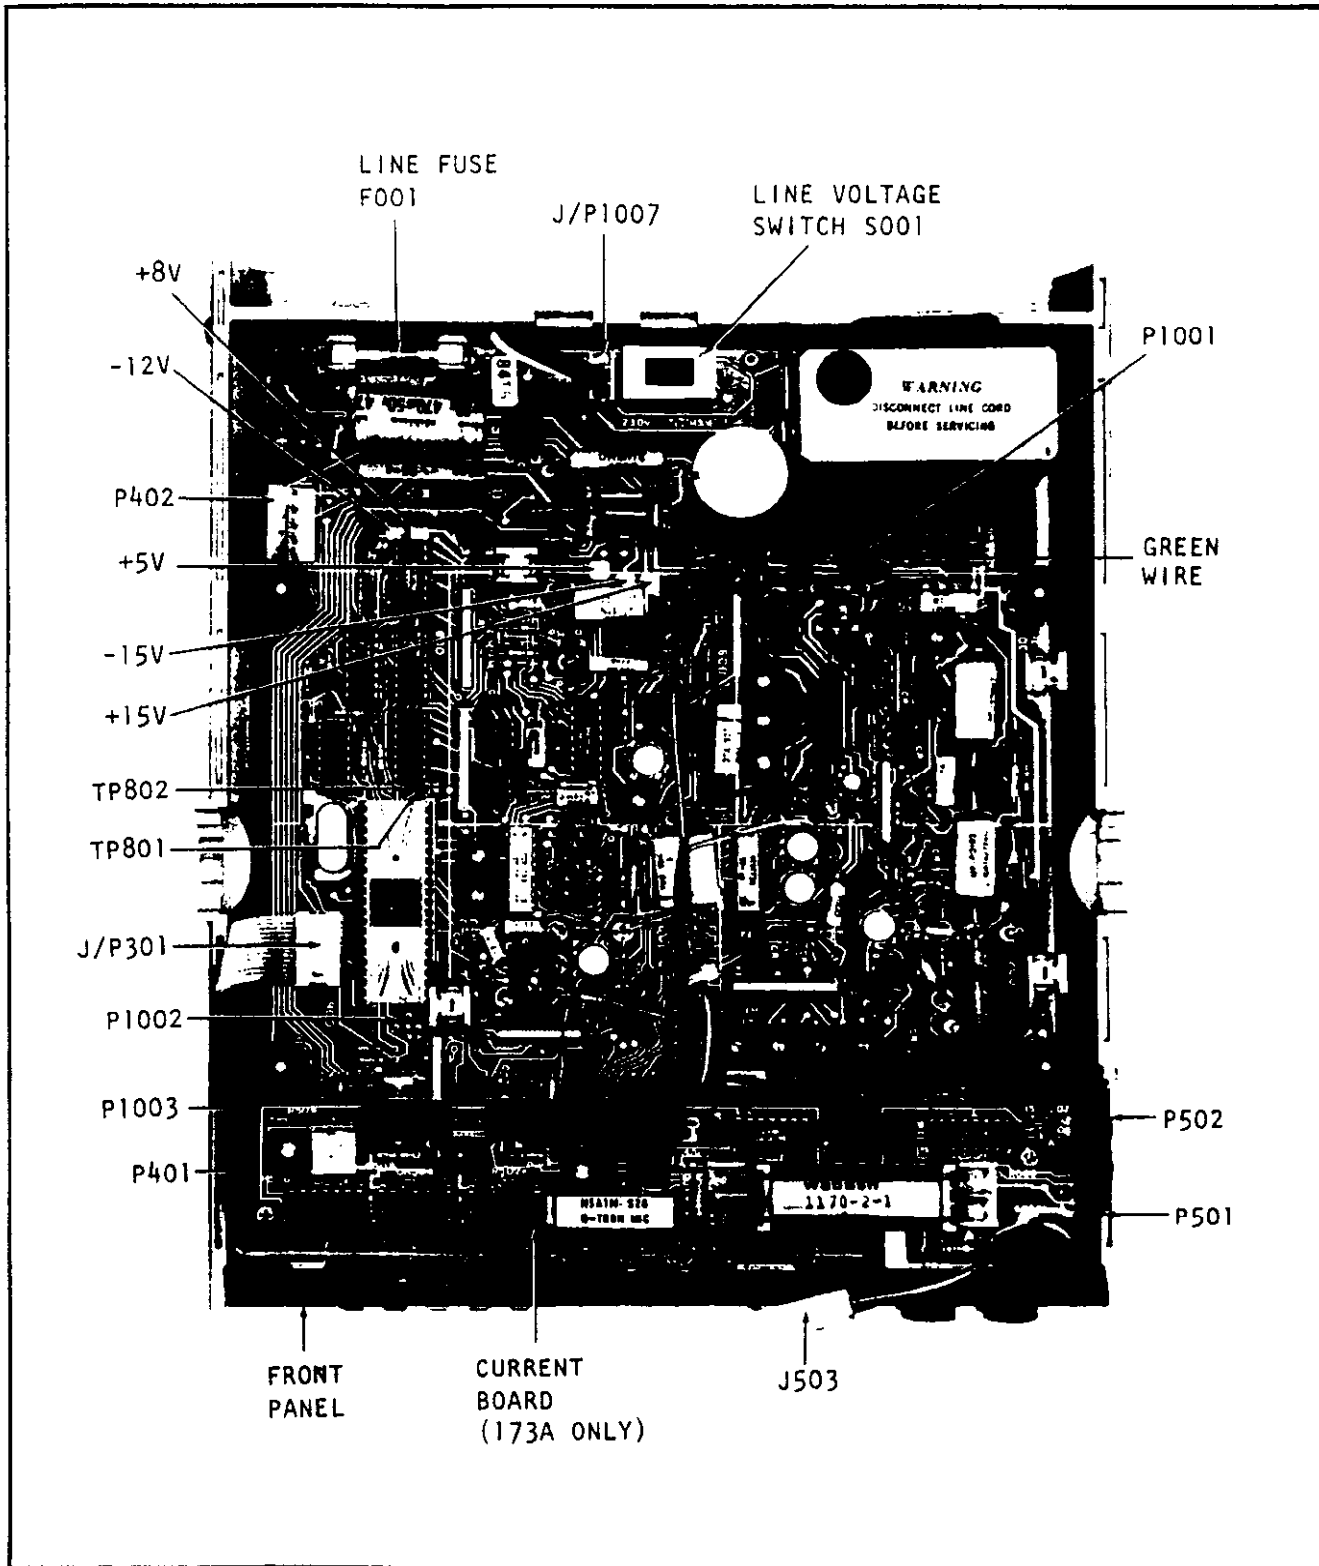

FIGURE 6-2. Location of Connectors and Test Points.
* On main printed circuit board (See Figure 6-2 for location, and see sheet 3 of Schematic 29145E for circuit details).
2) Remove F001, shown Figure 6-2, and replace it with a 1/4A, 250V, 3AG SLO-BLO fuse (Keithley part number FU-17) for 117V line operation, or a 1/8A, 250V, 3AG SLO-BLO fuse (Keithley part number FU-20) for 230V line operation.